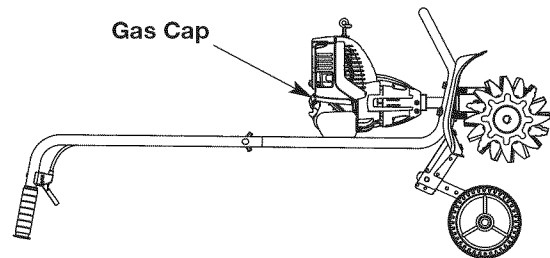

Fig. 9
**NOTE:** Fill or add gas to the tank only when the mini tiller is in a horizontal position (Fig. 9).
2. Place the unit in a horizontal position to get a proper oil level reading (Fig. 9).